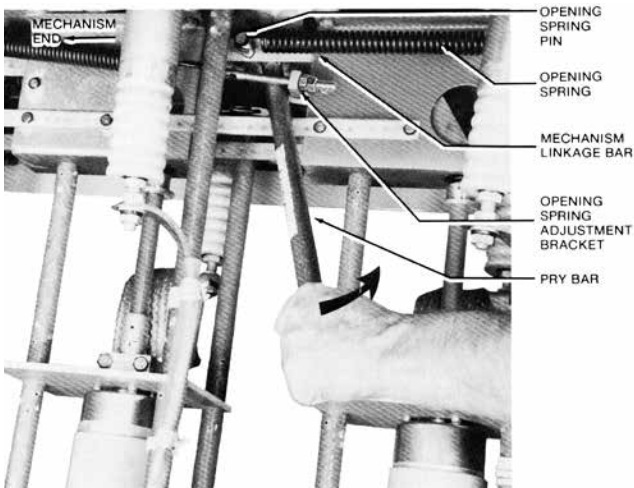

Figure 17. Pry bar is used to latch recloser in the fully closed position
- g. Using a pry bar on the interrupter mechanism move the operating linkage forward to latch the recloser in the fully closed position (Figure 17).